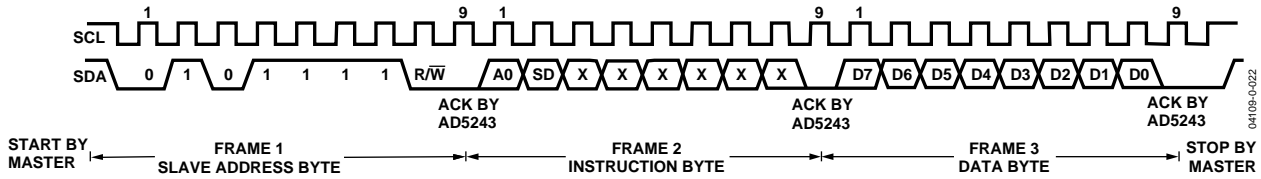
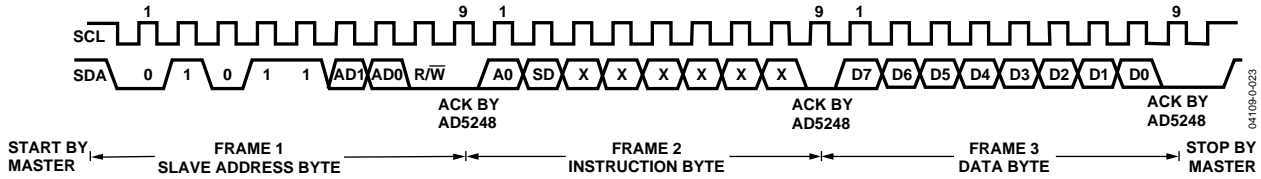
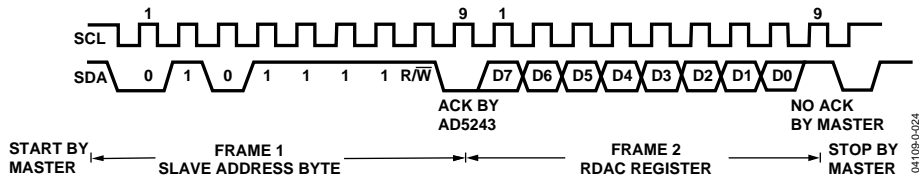
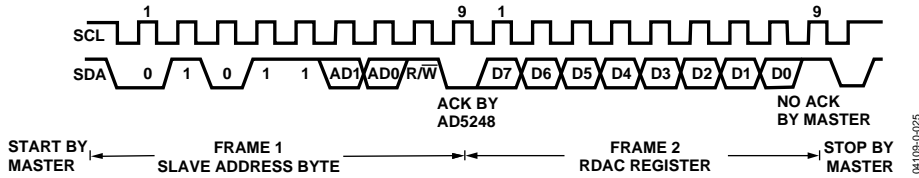

Figure 45. Writing to the RDAC Register—AD5243
Figure 46. Writing to the RDAC Register—AD5248
Figure 47. Reading Data from a Previously Selected RDAC Register in Write Mode—AD5243
Figure 48. Reading Data from a Previously Selected RDAC Register in Write Mode—AD5248
1. The master initiates data transfer by establishing a start condition, which is when a high-to-low transition on the SDA line occurs while SCL is high (see Figure 45). The following byte is the slave address byte, which consists of the slave address followed by an R/W bit (this bit determines whether data is read from or written to the slave device). The AD5243 has a fixed slave address byte, whereas the AD5248 has two configurable address bits, AD0 and AD1 (see Figure 10).
SDA line must occur during the low period of SCL and remain stable during the high period of SCL (see Figure 45 and Figure 46).
3. In the read mode, the data byte follows immediately after the acknowledgment of the slave address byte. Data is transmitted over the serial bus in sequences of nine clock pulses (a slight difference with the write mode, where there are eight data bits followed by an acknowledge bit). Similarly, the transitions on the SDA line must occur during the low period of SCL and remain stable during the high period of SCL (see Figure 47 and Figure 48).
Note that the channel of interest is the one that is previously selected in write mode. If users need to read the RDAC values of both channels, they need to program the first channel in write mode and then change to read mode to read the first channel value. After that, the user must return the device to write mode with the second channel selected and read the second channel value in read mode. It is not necessary for users to issue the Frame 3 data byte in write mode for subsequent readback operation. Users should refer to Figure 47 and Figure 48 for the programming format.
4. After all data bits have been read or written, a stop condition is established by the master. A stop condition is defined as a low-to-high transition on the SDA line while SCL is high. In write mode, the master pulls the SDA line high during the 10th clock pulse to establish a stop condition (see Figure 45 and Figure 46). In read mode, the master issues a no acknowledge for the ninth clock pulse (that is, the SDA line remains high). The master then brings the SDA line low before the 10th clock pulse, which goes high to establish a stop condition (see Figure 47 and Figure 48).